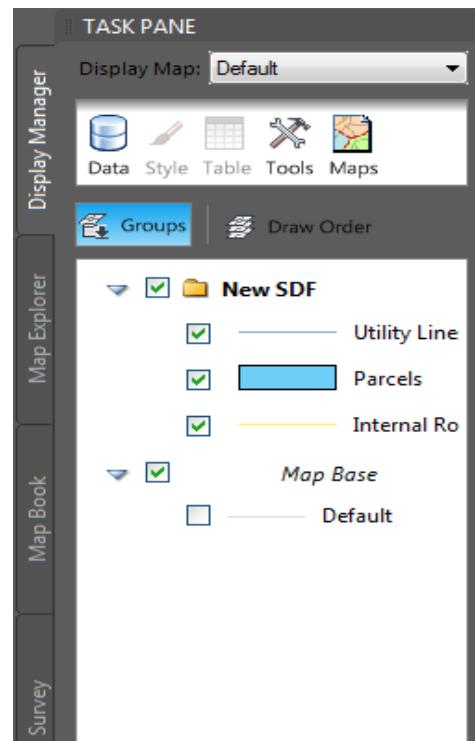

Figure 2-40 The Display Manager tab in the TASK PANE
6. Next, select the **Schema1** check box in this page and then choose the **Add to Map** button; the **New SDF file** is displayed in the drawing window. Figure 2-40 shows the **Display Manager** tab of the **TASK PANE** with the SDF data file. Next, close the **DATA CONNECT** wizard.